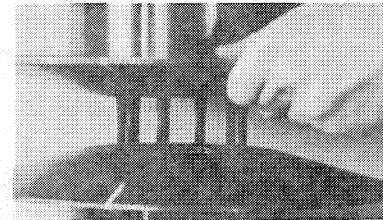

Fig. 10
2. Assemble two flanges with match-marks in line. Be careful **NOT** to cock or twist stabilizer pins as they are entering holes in mating flanges. See Fig. 10.